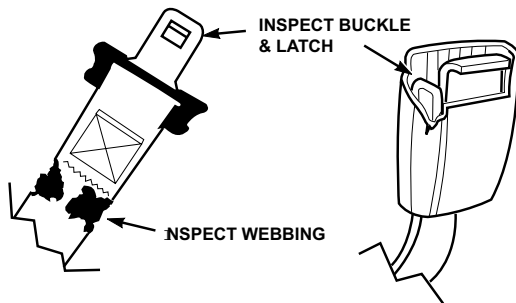

Figure 2-4. Seat Belt Inspection
1. Check the full length of the seat belt webbing for cuts, wear, fraying, dirt and stiffness. See Figure 2-4.
3. Check the buckle and latch for proper operation and determine if the latch plate is excessively worn, deformed, or if the buckle is damaged or cracked. See Figure 2-4.